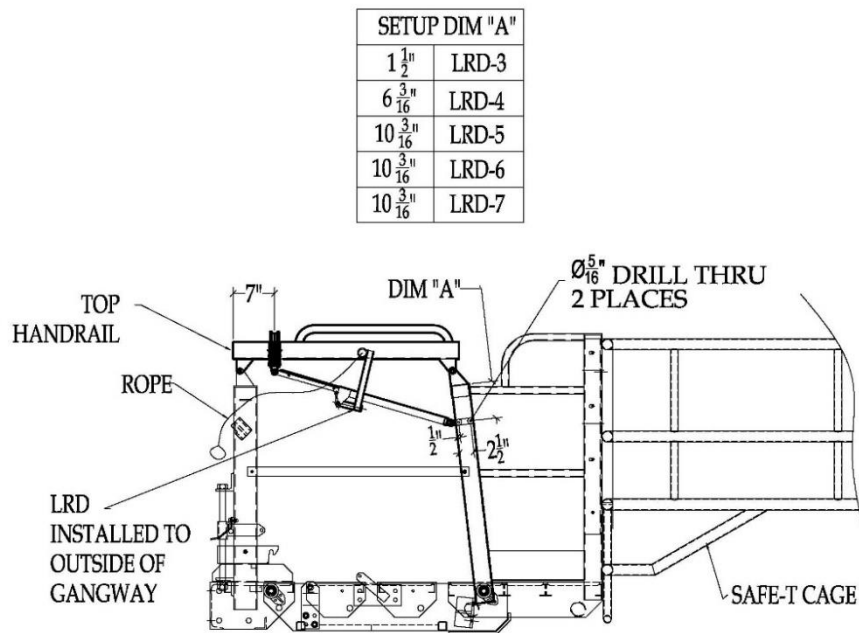

FIGURE 7-8 LRD™ INSTALLATION LOCATION
- ii) Per **FIGURE 7-8**, perform the following steps:
- 2) Spot the location for two holes by measuring down a distance equal to DIM "A" from the upper end of the 3" X 1-1/2" aluminum gangway post and 1/2" and 2-1/2" from the edge as shown in **FIGURE 7-8**. Drill a 5/16" diameter hole at each location (two holes total) completely through the gangway post.
- 4) Measure and mark a location 7" from the handrail pivot bracket platform side as shown in **FIGURE 7-8**. With the LRD™ totally assembled, center the linear rail mounting bracket on the marked location. Install the supplied two U-bolts, spacers, and washers and snug tight.